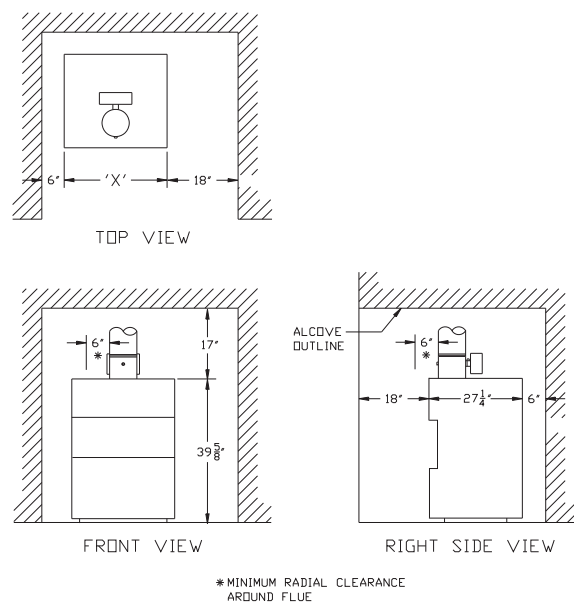

FIGURE 4.1: CLEARANCES TO COMBUSTIBLE CONSTRUCTION AND NONCOMBUSTIBLE CEILINGS, WALLS, AND DOORS.
- Observe minimum clearances shown below to avoid potential fire hazard. Except as noted, these clearances apply to all combustible construction as well as noncombustible walls, ceilings and doors. Also see Figure 4.1.
- A 24" service clearance from the jacket is recommended on the left, right, and front of the boiler. These clearances may be reduced to those shown in Figure 4.1, however servicing the boiler will become increasingly difficult as these service clearances are reduced.